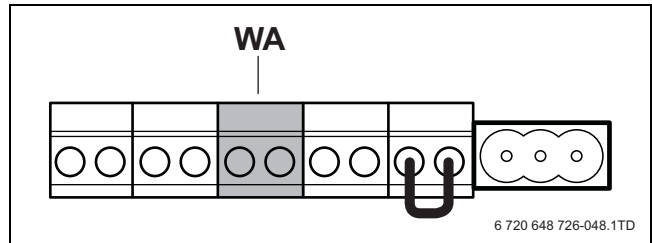

Fig. 48 Terminal strip - potential-free heat demand (connection colour green)
- ▶ Connect the potential-free heat demand contact to the green WA terminal (→ fig. 48). The maximum allowed resistance of this circuit is 100 ohms. Use a 2-core cable of 0.75 mm².
- ▶ Connect the 230 Volt converter (grey box) via the pair of black low voltage cable to terminal WA. See figure 48.